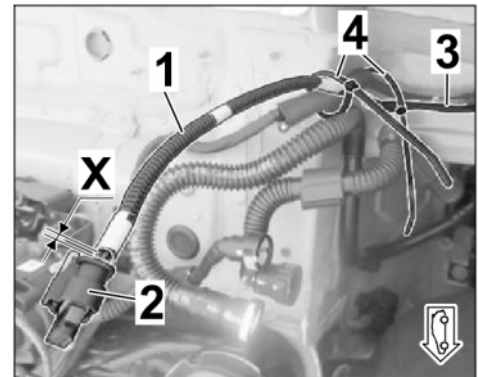

Figure 24
- 3.4.5 Install corrugated hose 4.5 x 7.6 x X to each branch from a distance of approx. 30 mm from the connector (socket housing 4-pin) to the underbody (⇒ *Figure 24*).